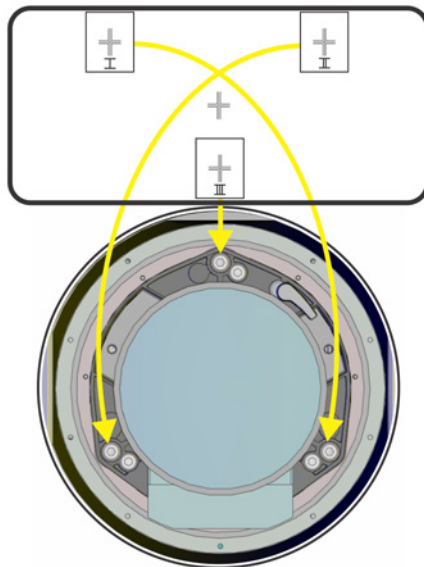

FIGURE 2-3 CROSS-HAIR PATTERN
3. If boresight is required, refer to Figure 2-3 Cross-Hair Pattern to understand how the adjustment screws on the lens mount affect the corresponding cross-hairs on the test pattern.